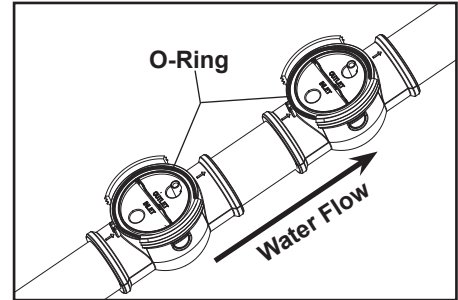

Figure 12. Cell Attached
11. Insert the o-ring into the channel on each of the clamps (see Figure 12).